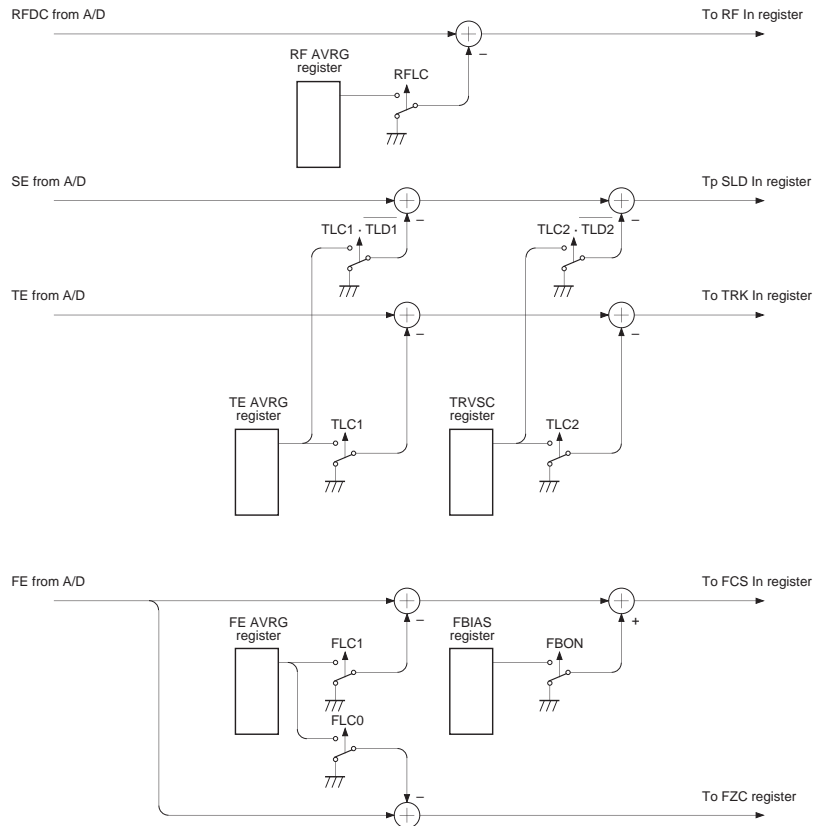

Fig. 5-3a.
Two methods of canceling the DC offset are assumed for the CXD2585Q. These methods are shown in Figs. 5-3a and 5-3b.
- \$38 14 0A (Compensation on [RFLC, FLC0, FLC1, TLC1], corresponds to Fig. 5-3a.)